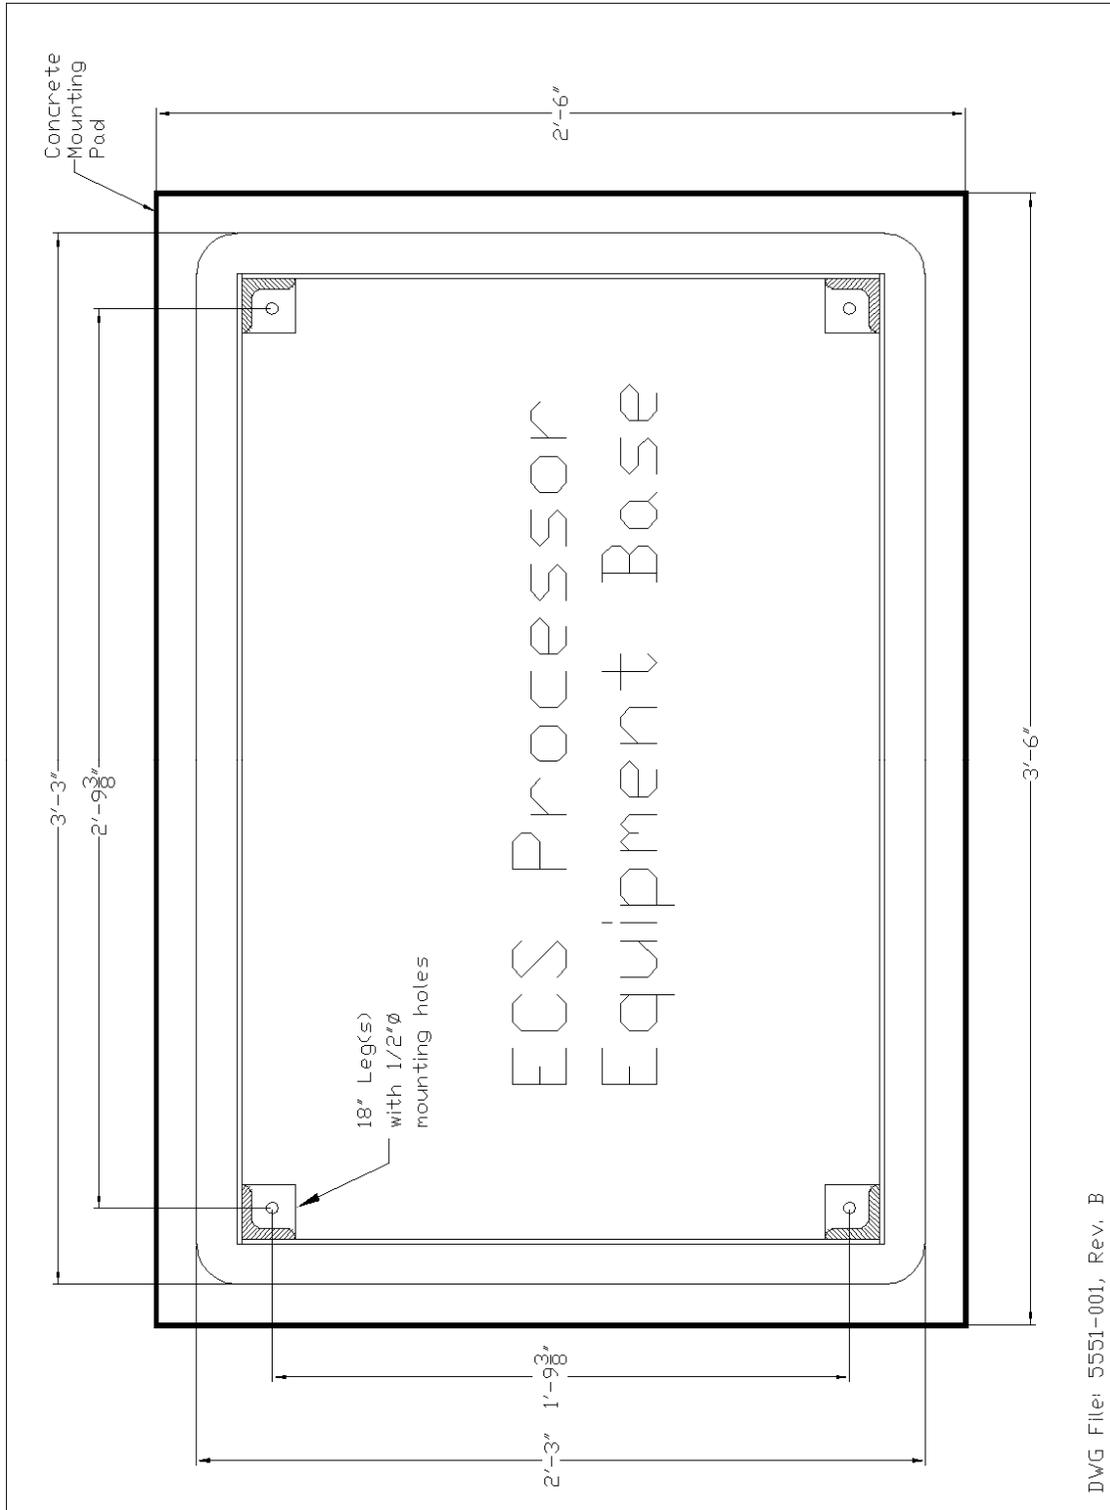

Figure 11: Concrete Mounting Pad Dimensions
- ▶ See figure 11: Page 14-36.